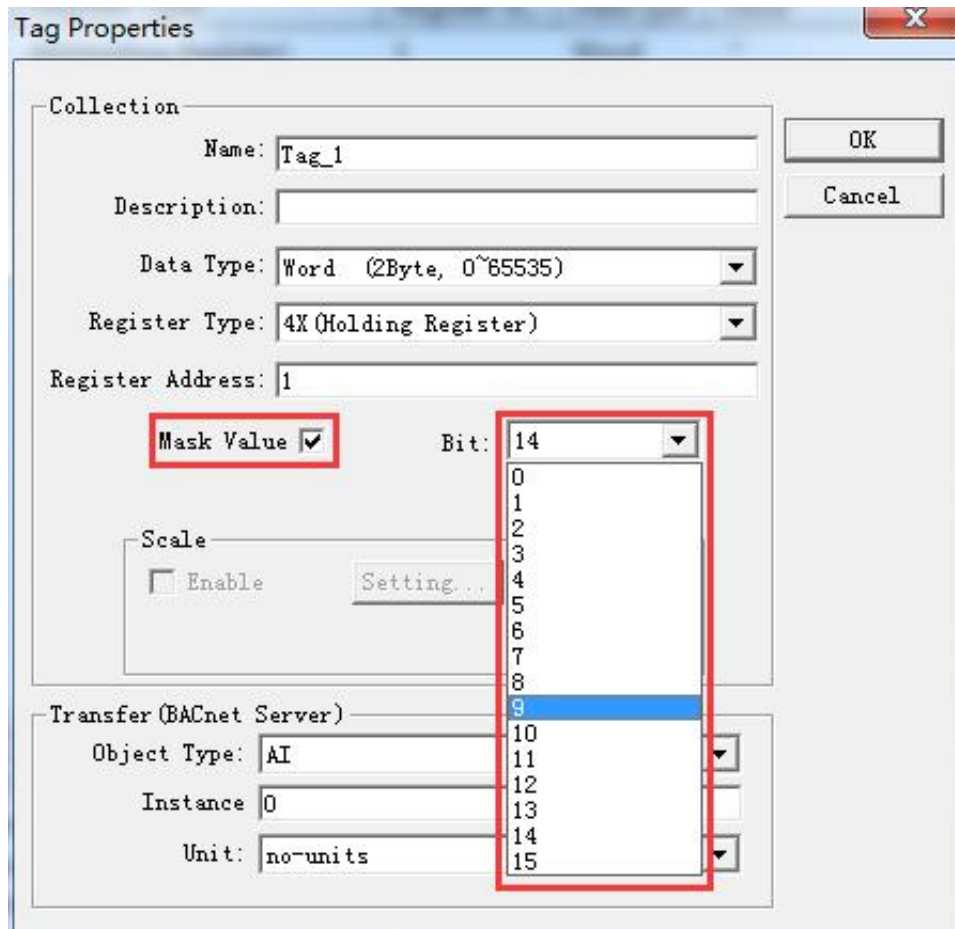

Figure 3-2-6 Pick up a Bit
- **Mask Value:** Check single box "Mask Value" to pick up a bit from 0 to 15 of some register if necessary, as the following Figure 3-2-6 shows.